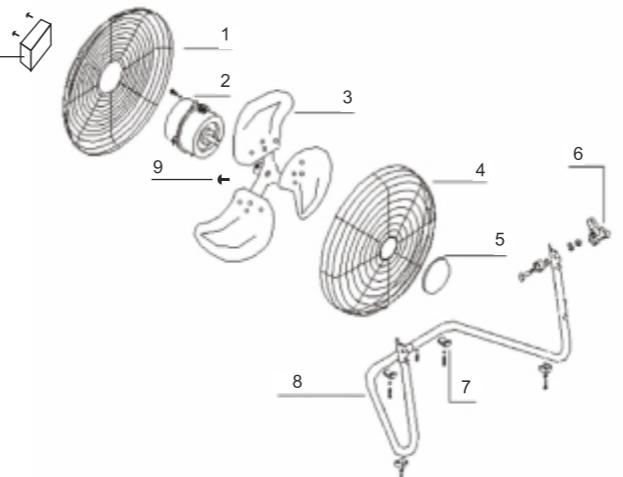

FIG. 1
4. ASSEMBLY (see Fig. 1)
- Adjust the propeller (3) towards a flat notch on the motor shaft (2), put it on tightly and fix it in this position by tightening a screw «A» (9). The screw «A» should be placed on the flat notch of the motor shaft. Rotate the propeller with a hand and make sure that it rotates easily.
- Connect the front grille (4) with the back one (1) and attach them to each other with the use of clamps.
- Mount the fan on a supporting frame (8) and tighten an adjusting handle (6).
- Take a grille and set it to the preferred blow-off angle by inclining it up or down. If needed, release a handle (6).